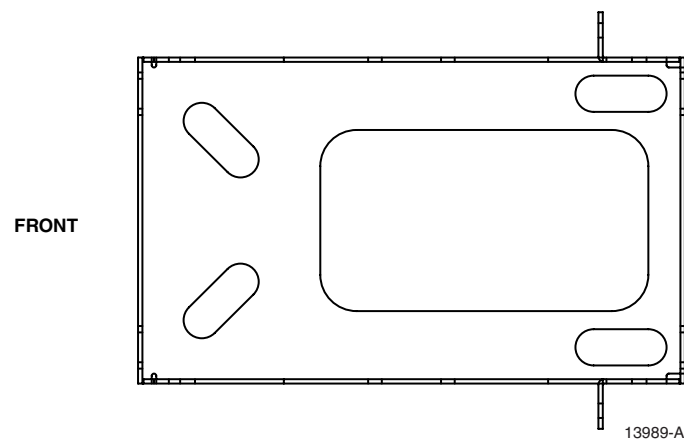

Figure 5. FOTSB Base Mounting Hole Pattern
2. Mark the mounting hole locations on the floor. Use the holes with the widest spacing to provide the greatest stability. See Figure 5.